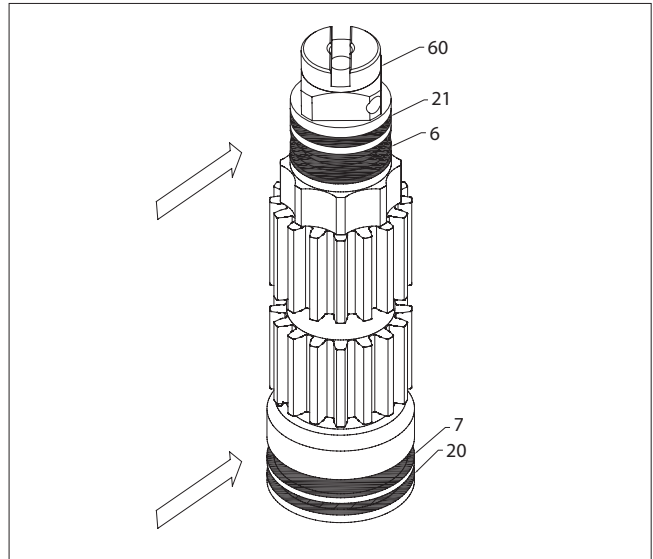
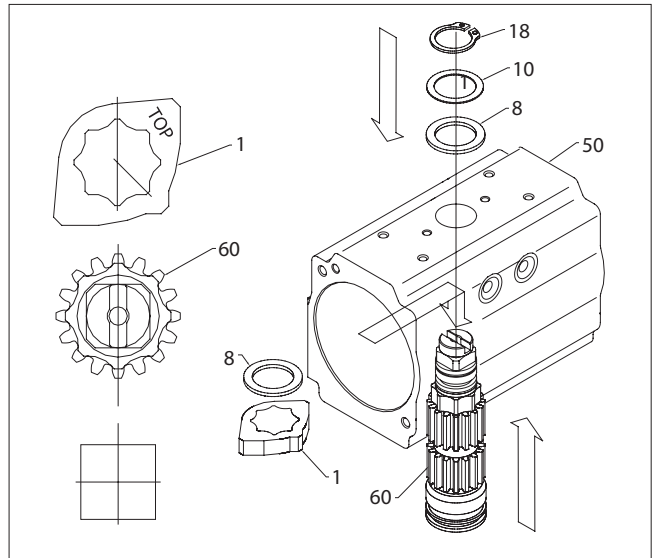
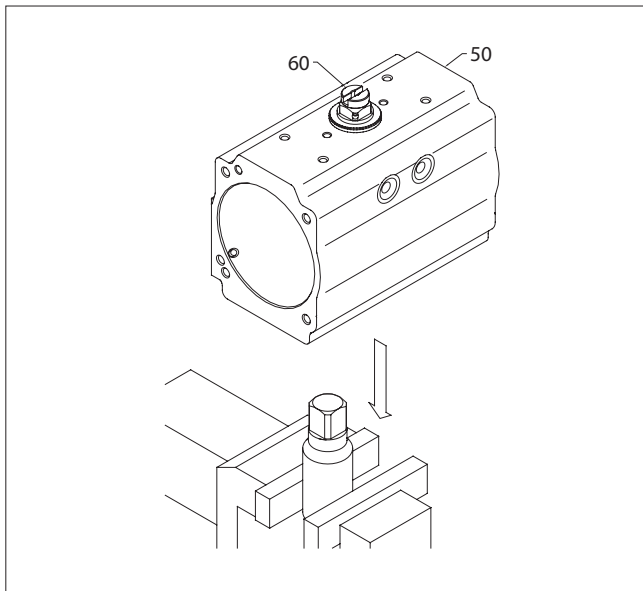

Figure 8.
Figure 9.
Figure 10.
1. Drive Shaft (60) Assembly, (Figures 8 & 9):
- A. Install the top and bottom shaft bearings (6, 7) and o-rings (21, 22) onto the shaft (60).
- C. Partially Insert the shaft (60) into the body (50). Install the octi-cam (1) onto the shaft in the orientation shown in (Figure 9). The edges of the octi-cam (1) should align with the edges of the square in the bottom of the shaft (60). Insert the internal thrust bearing (8) over the octi-cam (1). Fully insert the shaft into the body (50).
- D. Install the external thrust bearing (8), thrust washer (10), and the spring clip (18).
2. Piston (40) Assembly, (Figures 10 through 13):
- A. Install the piston o-ring seal (16) and the piston head (15) and piston back (5) bearings.
- B. Apply grease to the internal bore of the body (50) using a recommended o-ring area grease listed in (Table 2). Apply grease to the piston (40) rack teeth using a recommended general purpose grease listed in (Table 2).
- C. Hold the body (50) in a horizontal position by inserting the top of the shaft in a vice, or inserting the bottom of the shaft connection into a male drive fitted into a vice as shown by (Figure 10).
If the serial number of the Actuator is 10136023 or lower then the Actuator must be disassembled and the Octi-Cam (1) must be rotated, see Figure 9, before installing the Safety Lockout Kit.